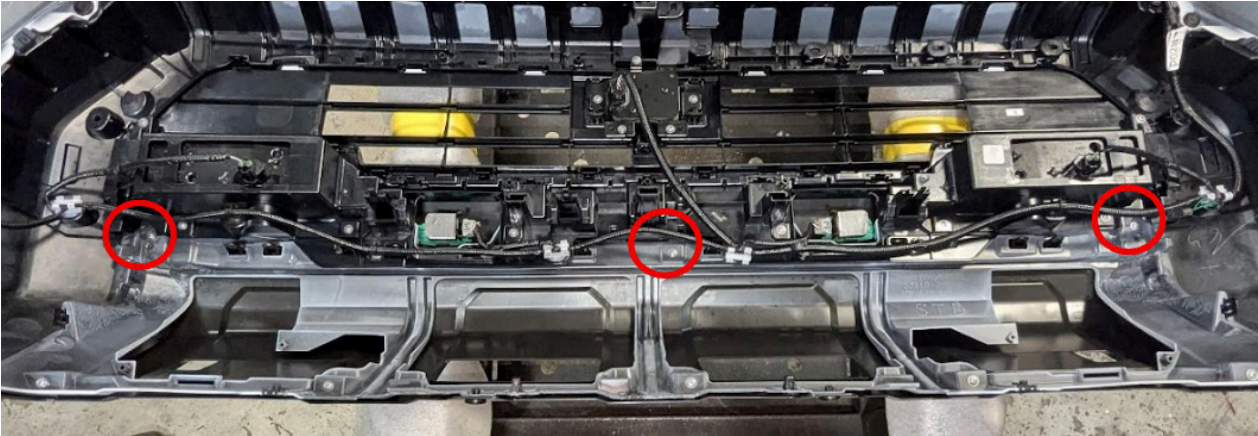

Figure 32
21. Using a Phillips head screwdriver, reinstall three (3) of the previously removed screws to resecure the facia. (Figure 32)